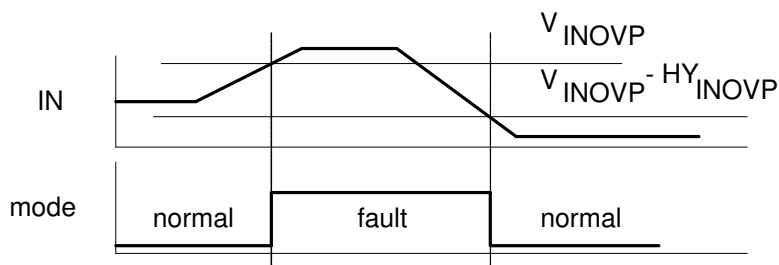

Figure 5: Output over voltage Protection
1. Output over voltage protection (OOVP) is activated when the voltage at Pin IN rises above V_{INOVP} (figure 5).